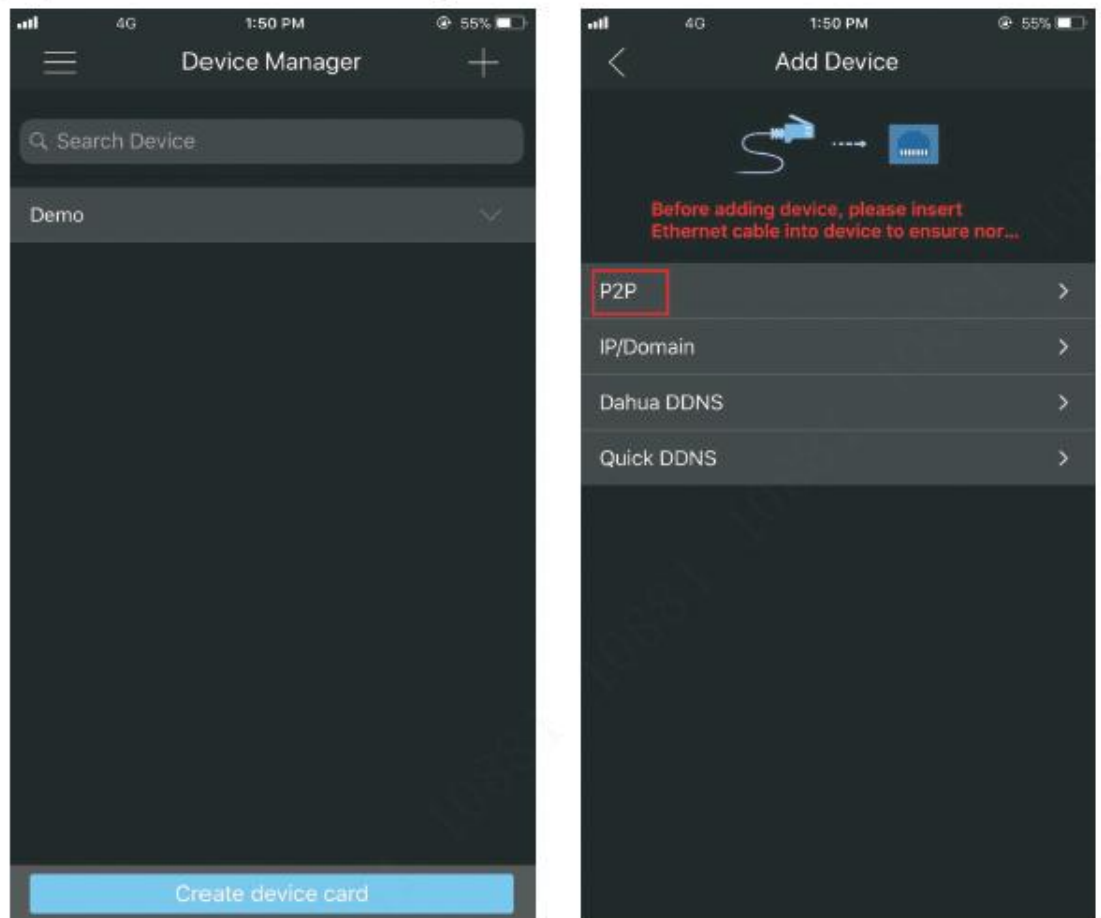

Figure 6-2
2) Tap P2P to add the device. See Figure 6-2.